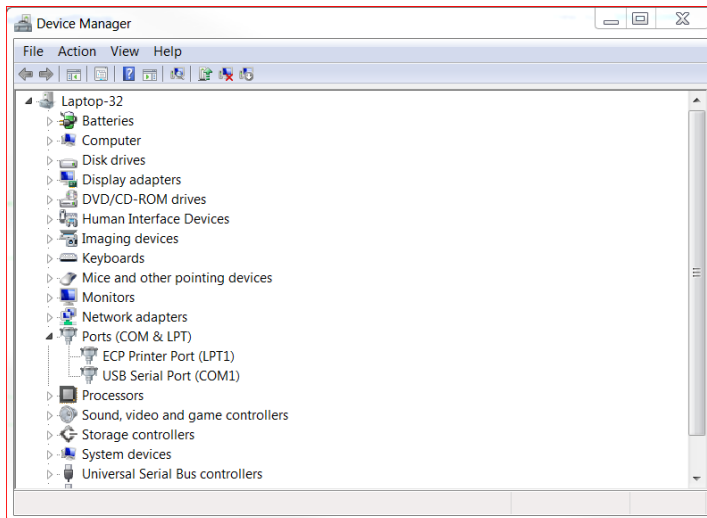

Fig. 1
- The supplied USB Adapter CD must be installed on the PC, for the drivers, before continuing. The PC will recognize the Adapter and you can see which Port it is in by going to Device Manager on the PC and view the *Ports (Com & LPT)* see Fig. 1. The USB Serial Port connected, in this case, is COM1.